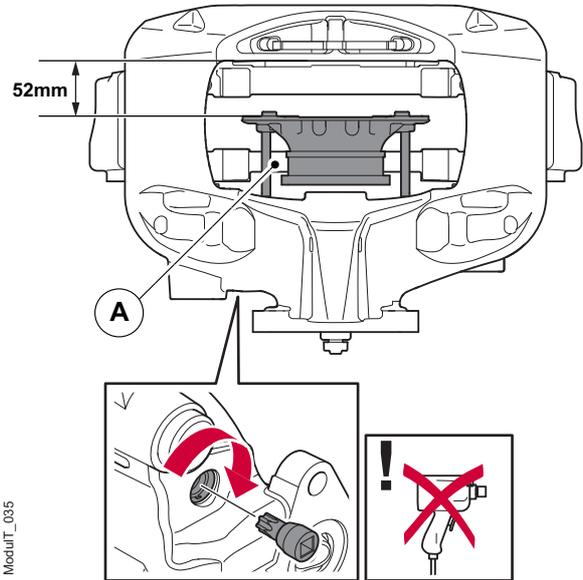

Figure 42. Extract the thrust plate
- Using Haldex special tool P/N 95232 (Torx 55) "Tools", manually turn the reset shaft clockwise to extract the thrust plate (A). Continue extracting until the thrust plate unscrews fully and becomes detached from the adjustment spindle, see figure 42.